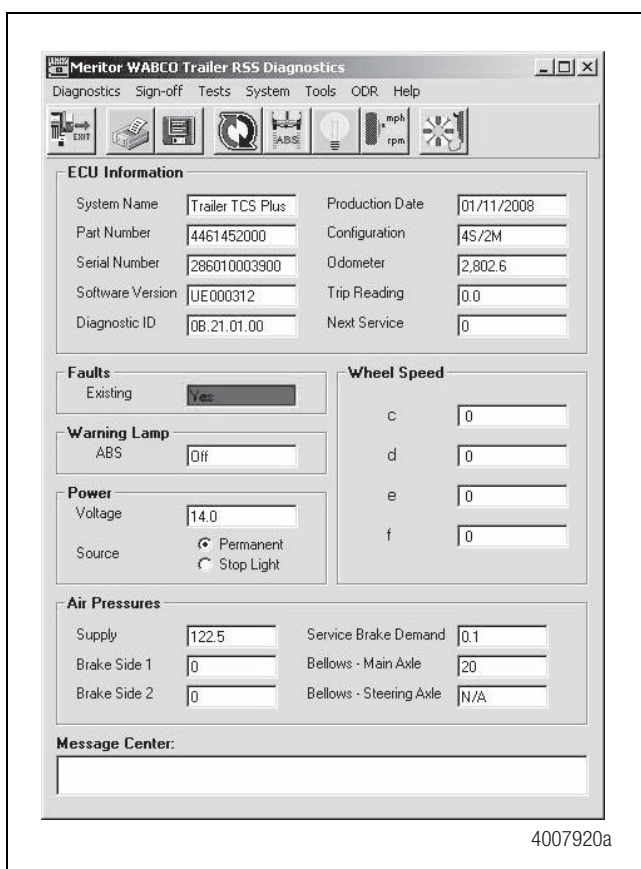

**Figure 58**
2. Double click on the TOOLBOX™ Software icon on your computer to launch the program. Figure 58.